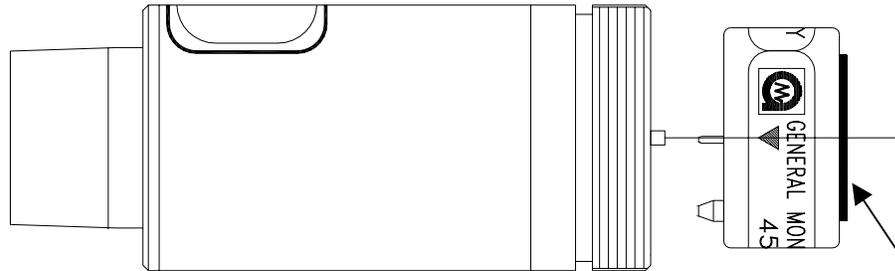

Figure 10 Sensor Alignment
5. Align the arrow on the sensor label with the notch on the TS420 body. Install the sensor by pushing sensor's pins into pin sockets on the TS420, see Figure 10.